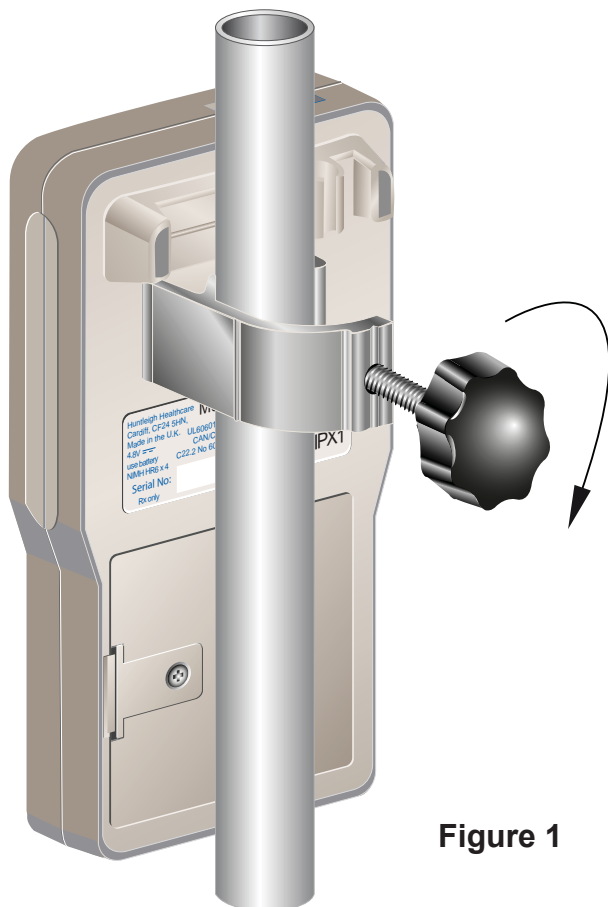

Figure 1
1. Slide the pole clamp underneath the belt clip on unit and fix securely to the I.V. pole (see Figure 1 below).